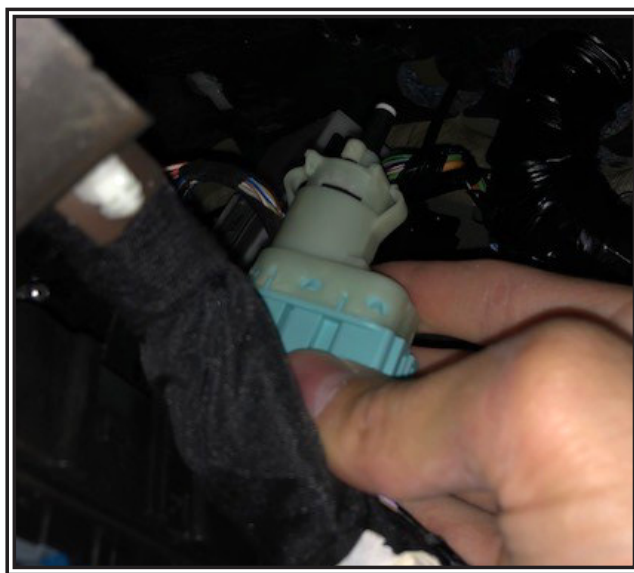

Figure 9
Step 2. Remove sensor by twisting counter-clockwise shown in FIGURE 9.